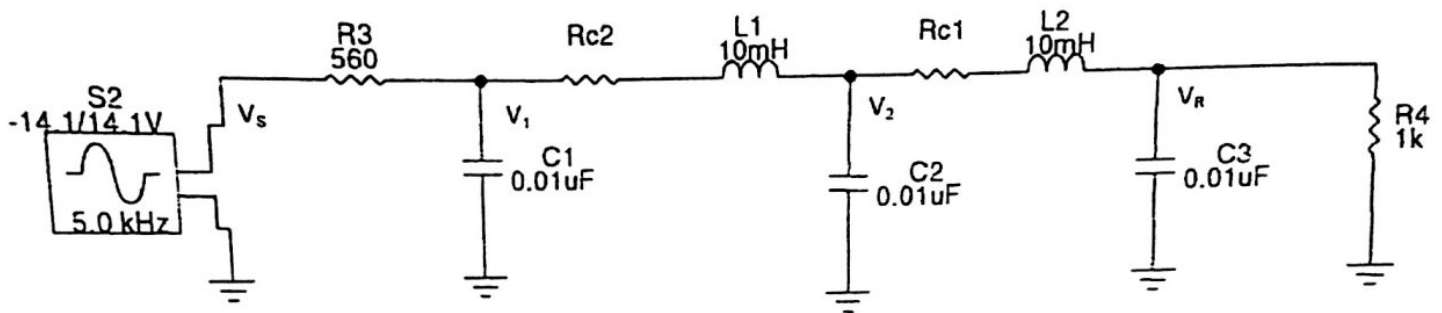

Figure 4. Transmission Line Model Including Coil Resistances.
- 8.) Measure the dc resistance of the inductors using a multimeter. Modify the Pspice model to include the coil resistance of the inductors. The resulting schematic should look like Figure 4.
- 9.) Simulate the circuit of Figure 4 for $f=5000$ Hz only. Find the magnitudes and phase angles of the voltages. Record the results in Table 8 for later use.